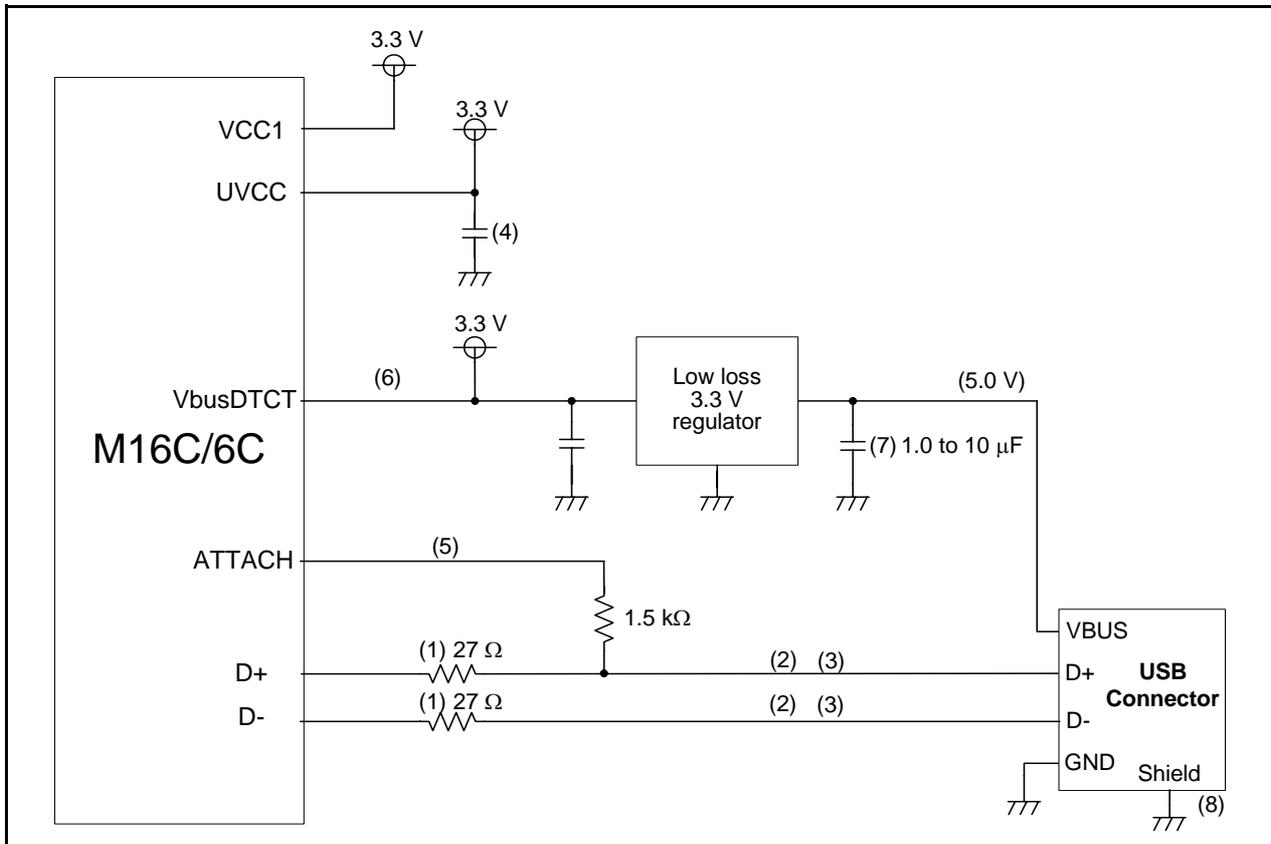

Figure 5.1 Bus-powered Mode Circuit (3.3 V)
Figure 5.1 shows an example of a Bus-powered Mode Circuit (3.3 V).
Note the items below when using a bus-powered mode circuit (3.3 V). Numbers (1) to (8) correspond to (1) to (8) in Figure 5.1.
(1) Series resistors on D+/D- lines